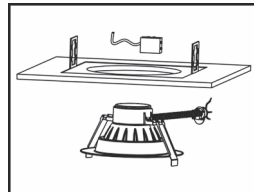

Fig. 2
- 3.) Attach the carabiner safety clip to the existing fixture frame or support structure. (**Figure 2**)
- 3.) Insert lamp conduit into the J-box and wire to power source (black to hot, white to neutral, green to ground) (**Figure 2**) Reattach J-box cover when done.